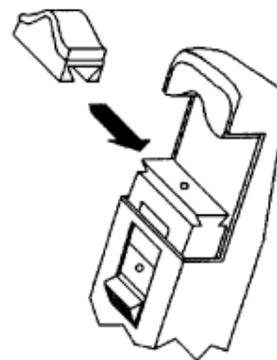

Figure 3
2. Select the appropriate adapter and slide it into the mating slotted channel of the F6222 with slight downward pressure, as shown in Figure 3.